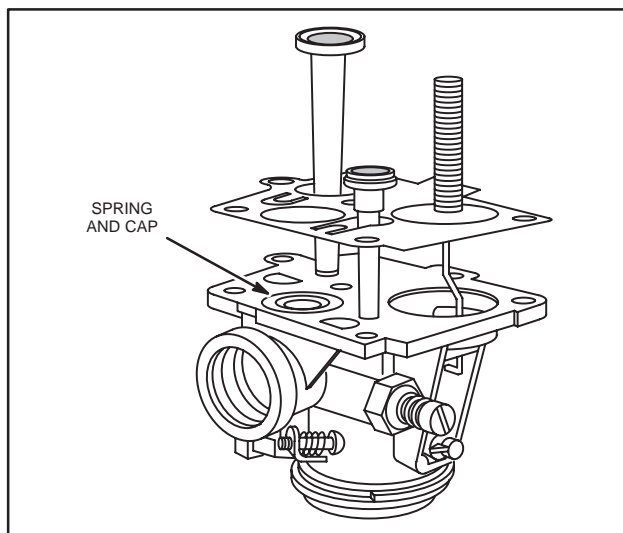

Fig. 242 – LOCATING DIAPHRAGM ON CARBURETOR
1. Holding carburetor body upside down, place diaphragm on body while guiding choke link thru hole for link. Be sure that pump spring and cap in fuel pump well, Fig. 242.